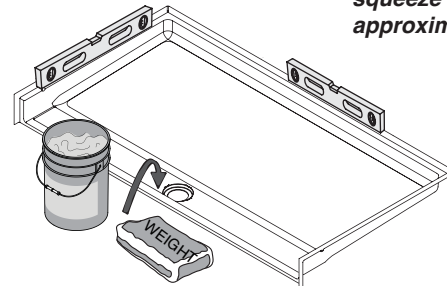

Figure 11
- 7** PLACE 50 POUNDS OF WEIGHT on top of the drain, as shown in Figure 11 to ensure the pan is making contact with the epoxy.